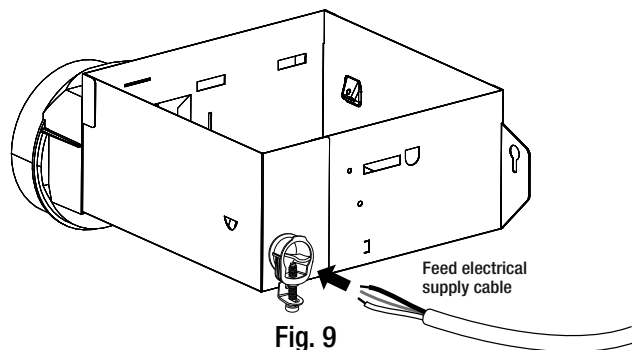

Fig. 9
- Install a cable clamp (not supplied) to the wiring hole of the fan housing. See figure 9.
- Feed the electrical supply cable through the cable clamp. See figure 9.